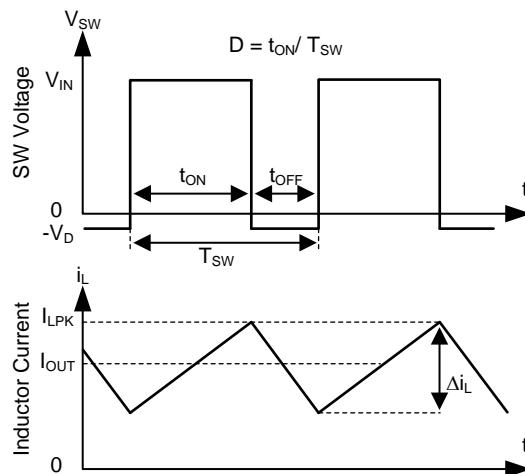

Figure 13. SW Node and Inductor Current Waveforms in Continuous Conduction Mode (CCM)
The following operating description of the LMR23625-Q1 refer to the *Functional Block Diagram* and to the waveforms in Figure 13. LMR23625-Q1 is a step-down synchronous buck regulator with integrated high-side (HS) and low-side (LS) switches (synchronous rectifier). The LMR23625-Q1 supplies a regulated output voltage by turning on the HS and LS NMOS switches with controlled duty cycle. During high-side switch ON time, the SW pin voltage swings up to approximately V_{IN} , and the inductor current i_L increase with linear slope $(V_{IN} - V_{OUT}) / L$. When the HS switch is turned off by the control logic, the LS switch is turned on after an anti-shoot-through dead time. Inductor current discharges through the LS switch with a slope of $-V_{OUT} / L$. The control parameter of a buck converter is defined as duty cycle $D = t_{ON} / T_{SW}$, where t_{ON} is the high-side switch ON time and T_{SW} is the switching period. The regulator control loop maintains a constant output voltage by adjusting the duty cycle D. In an ideal buck converter, where losses are ignored, D is proportional to the output voltage and inversely proportional to the input voltage: $D = V_{OUT} / V_{IN}$.